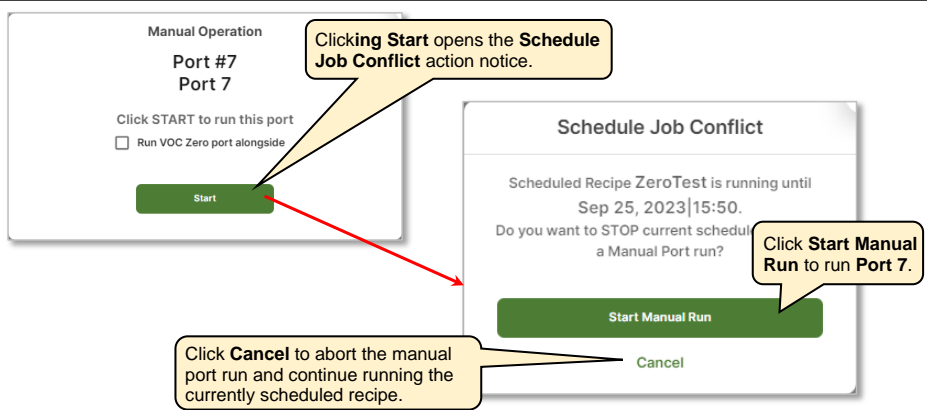

Figure 39: Run Port (Manual Operation – Schedule Conflict Warning)
- Since a recipe is already running, clicking the **Start** button causes a popup **Schedule Job Conflict** action notice to open (Figure 39). It states which recipe is currently running and asks if you want to stop the current schedule and start the manual run.